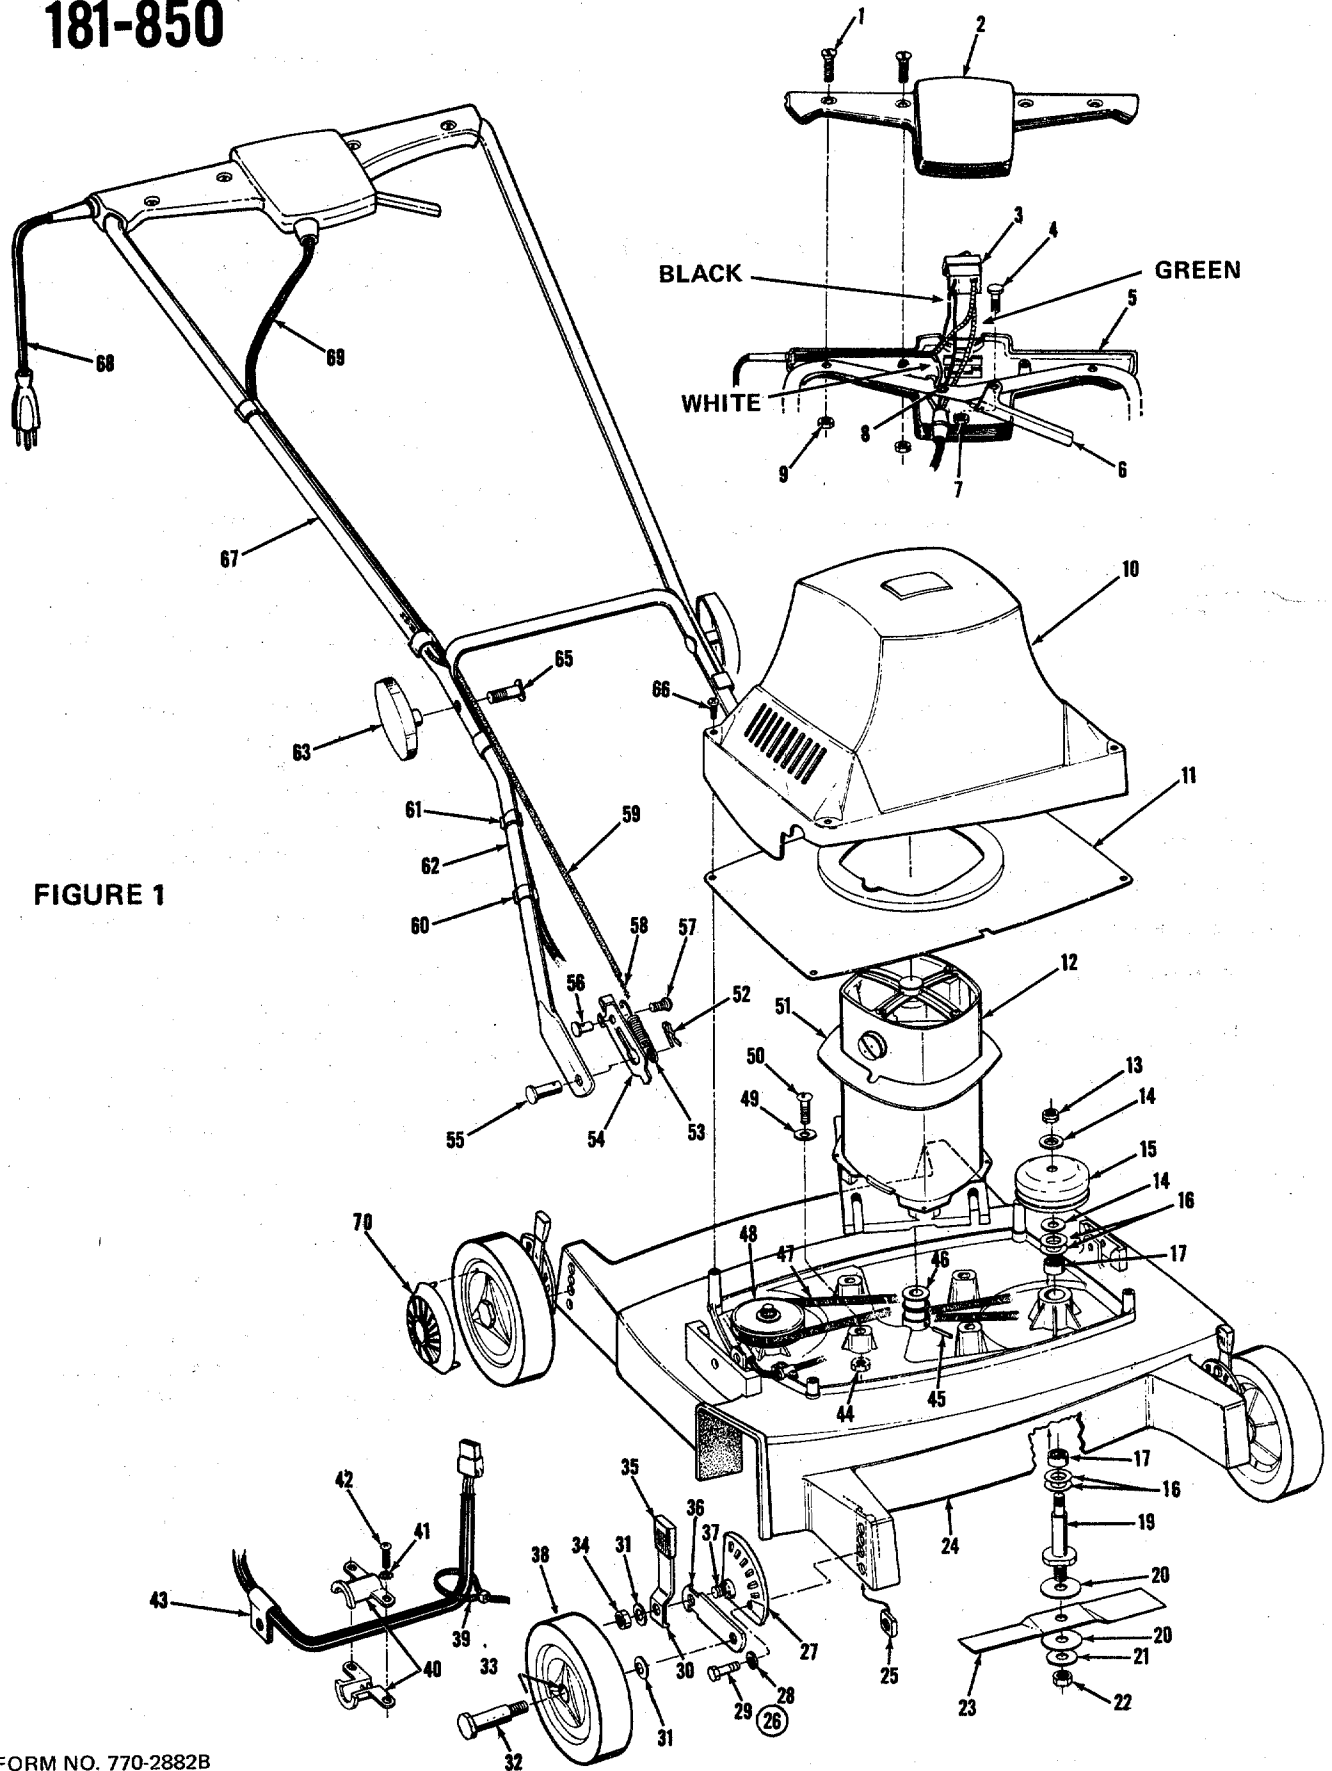

FIGURE 1
** NOTE: CAUTION – See Fig. 1 – If roller bearings must be replaced, be sure that the seal is the opposite way of the arrow shown in Fig. 1.
6. When replacing the blade on the spindle, check with figure 1 for correct assembly. Be sure the blade nuts are tight.